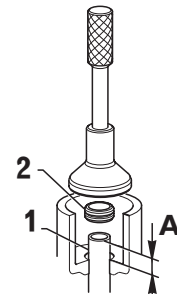

FIG. 4-2d
- Press into housing over the oil suction pipe the seal using the appropriate punch (Fig. 4-2d).